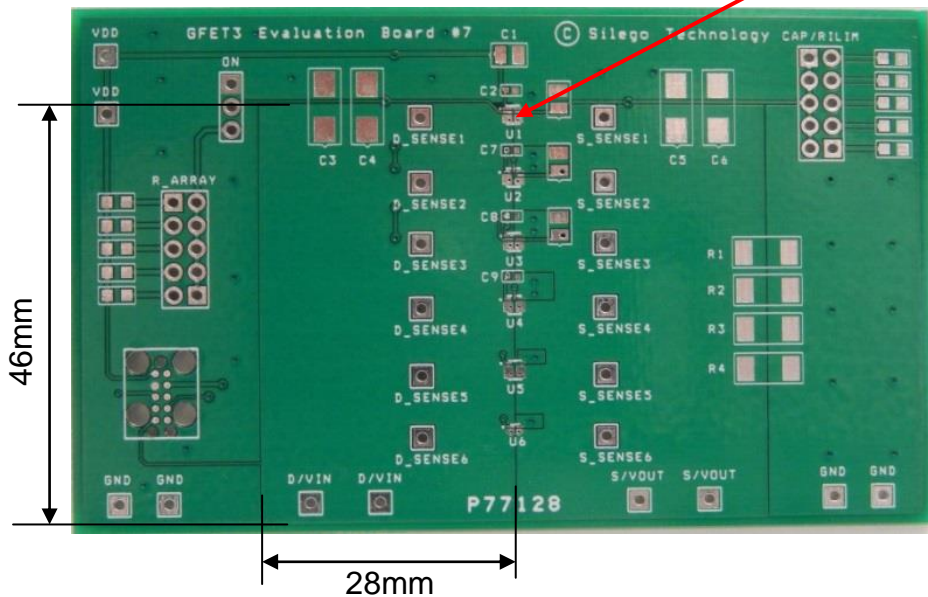

Figure 3. SLG59M610V Evaluation Test Board
2.3. The D/VIN and S/VOUT pins carry significant current. Please note how the D/VIN and S/VOUT pads are placed directly on the power planes in Figure 3, which minimizes the $R_{ds(ON)}$ associated with long, narrow traces. The D/VIN, S/VOUT and GND pins dissipate most of the heat generated during high-load current condition. The layout shown in Figure 3 is illustrating a proper solution for heat to transfer as efficiently as possible out of the device.